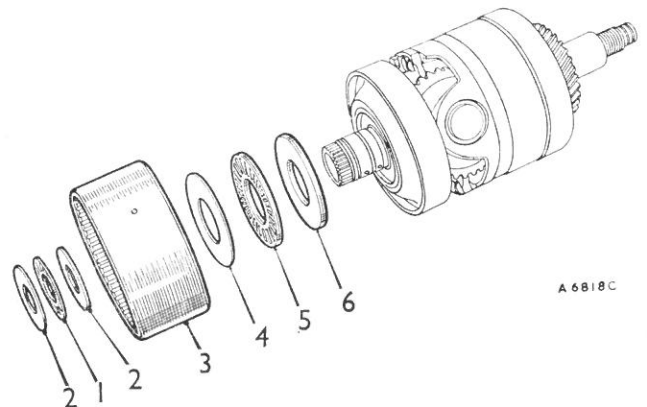

Fig. Fa.44
- (27) Refit the top and reverse clutch with its selective steel washer and Torrington needle thrust bearing onto the reverse output shaft (see Fig. Fa.44).